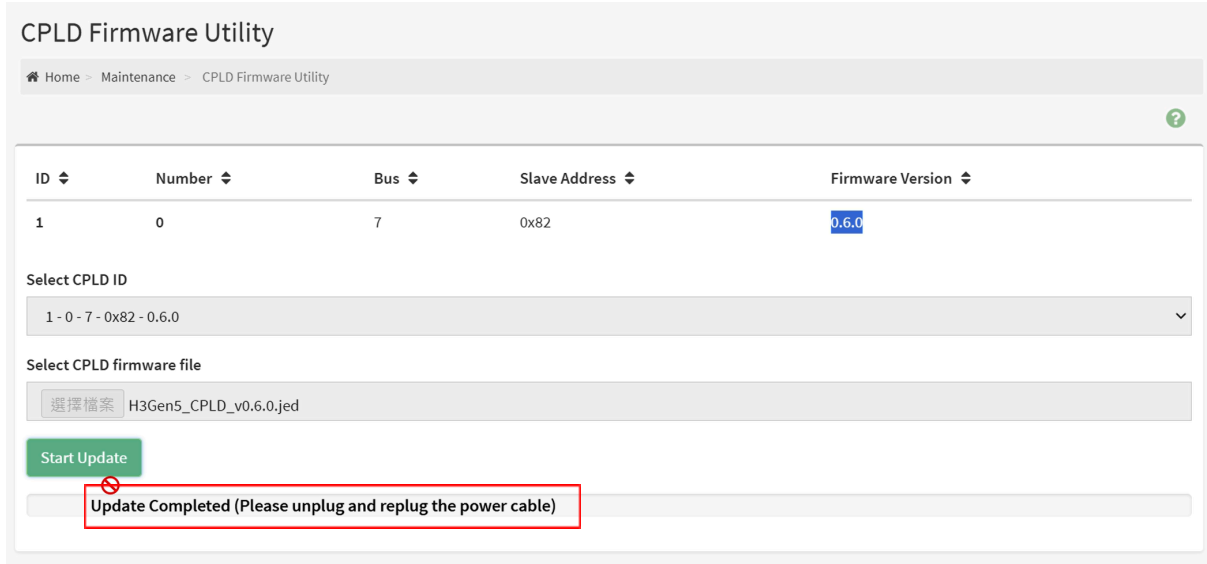

Figure 108. Firmware update completion notification.
- A. After the update, a notification will appear: Update Completed (Please unplug and replug the power cable) (refer to Figure 108).